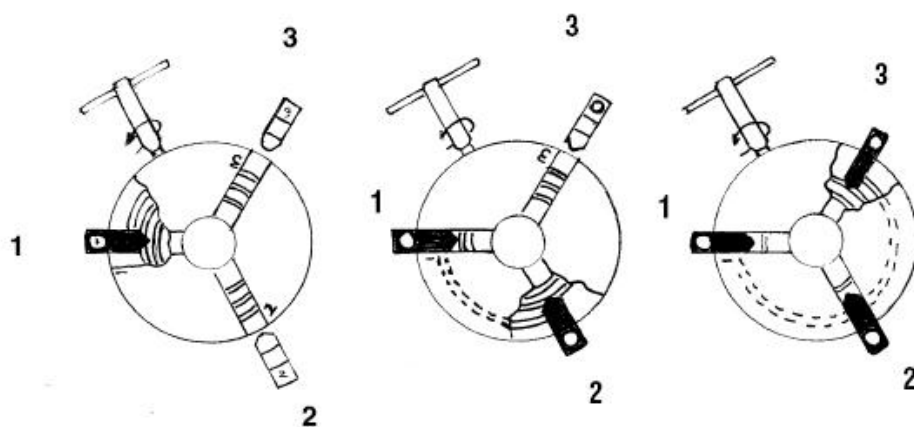

Fig.9
The chuck has two jaws. It will be necessary to remove the chuck jaws for cleaning or when changing the other jaws, referring to figure 9. The jaws are numbered 1, 2, 3 and it is **very important** that they are installed into the corresponding numbered slot.
1. Reinstall in the order of 1, 2, 3 (counterclockwise – see Figure 9)